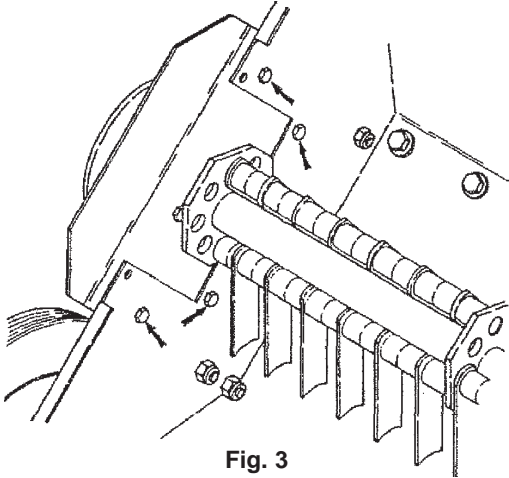

Fig. 3
2. After re-moving the belt shield, remove the twelve bolts on the left side and three on the right side which hold the blade assembly to the main body (Figure 3).